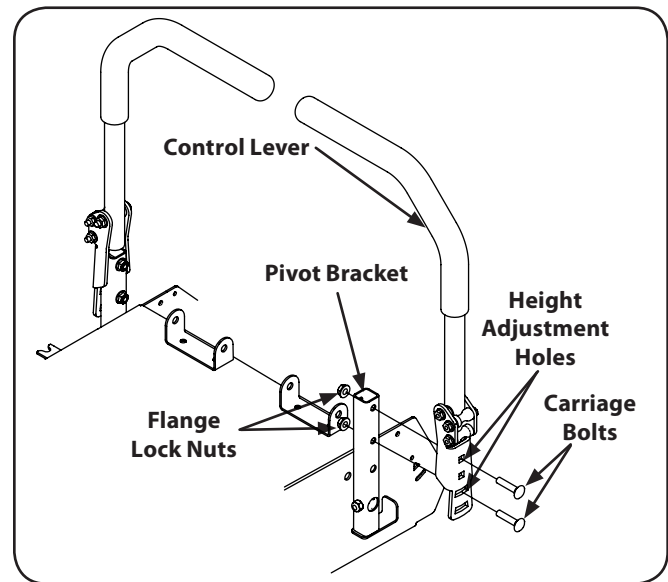

Figure 6-5
- Remove the nuts from the control lever mounting bolts. See Fig. 6-5.